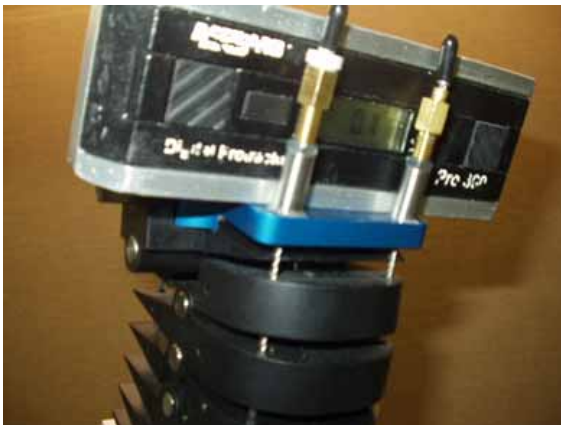

Figure 88 - OC Plate Lateral Angle Setting
3. Place digital inclinometer laterally across O.C. plate (Figure 88) and add tension to damper cable using both cable adjusters, until angle across O.C. plate is Zero +/- .5 degree. After angle is correct, tighten both locknuts on damper cable adjusters. Leave spine in position for next step.